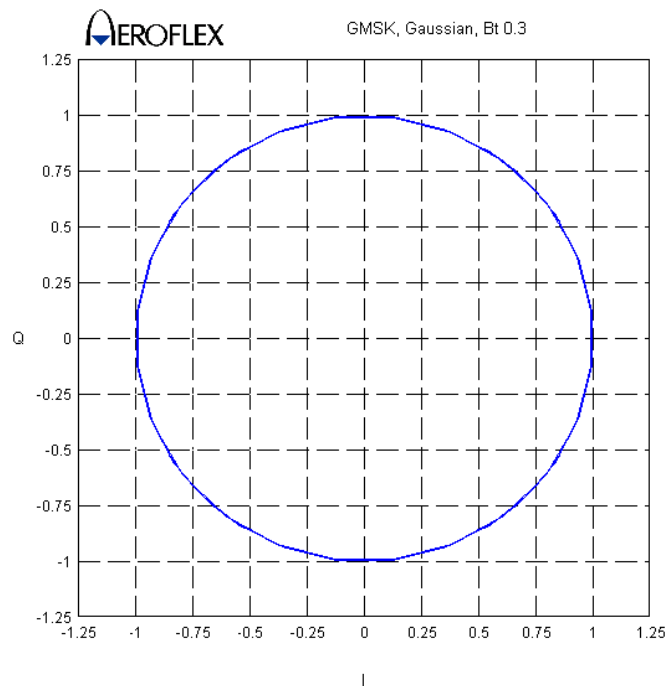

Fig. 6-13 Oscilloscope display showing GMSK
- 7 Set both channels of the oscilloscope to 0.2 V/div and the timebase to X-Y. The oscilloscope's display should appear similar to Fig. 6-13.